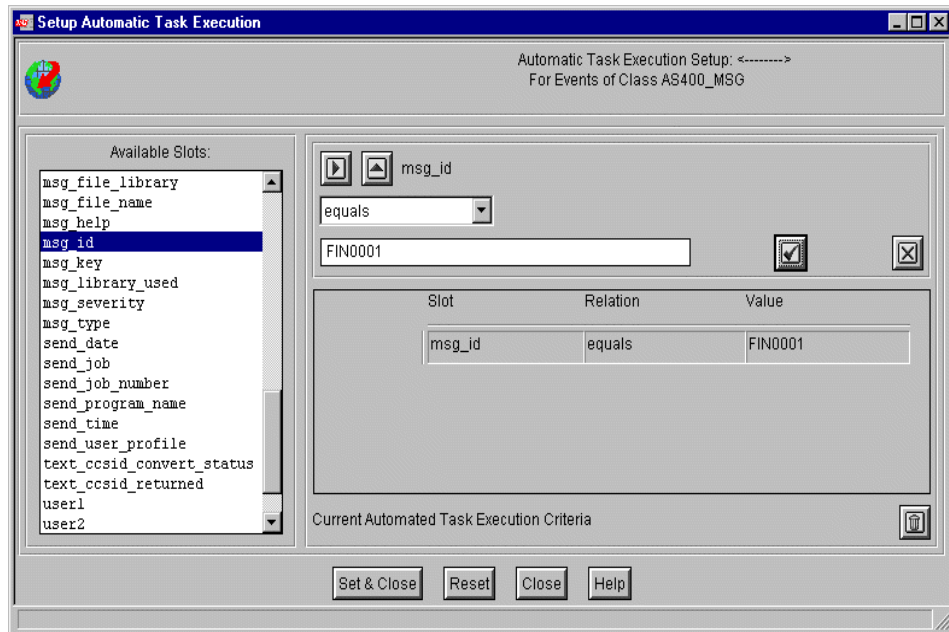

Figure 294. Editing Automatic Task execution criteria
6. On the Summary of Automated Tasks screen, we have to select the criteria that we will use to determine when our automated response will run. First, click on the **Edit Criteria** button to display the Setup Automatic Task Execution screen shown in Figure 294 on page 461.